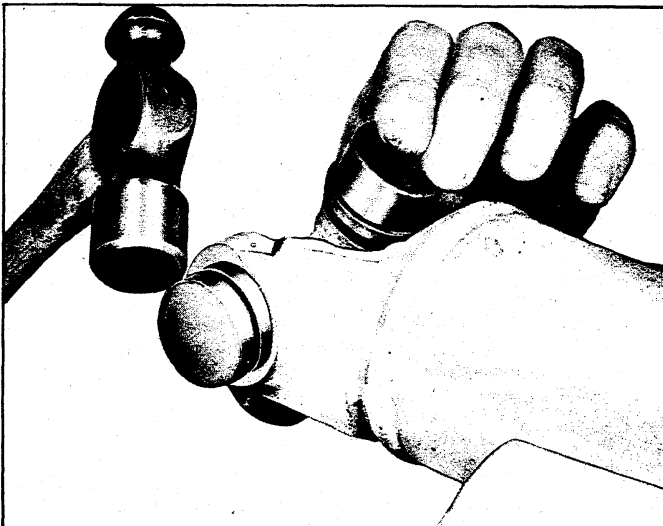

Fig. 110—Removing Bearing from Propeller Shaft
- d. Complete removal of bearing by tapping around circumference of exposed portion with a small hammer (fig. 110).